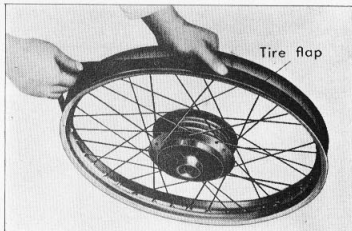

Figure 4-22. Installing tire flap
- 11) Reinstall the tire flap so that it is positioned over the spoke nipples. (Fig. 4-22)